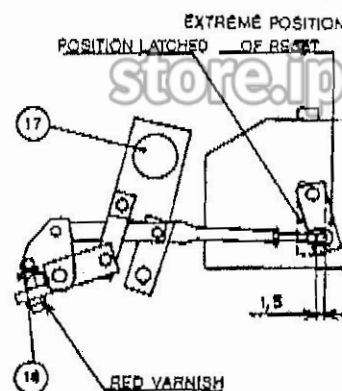

Fig. 14
- 1) Breaker equipped with signal indication with memory for overload and short circuit release (with or without indication.) (Fig. 14).
a) Adjustment. When breakers are equipped with this accessory, it is necessary to place breaker in open position and adjust screw (16) to effect latching the release. A very distinct click indicates latching. To insure a margin of safety, unscrew $\frac{1}{4}$ of a turn.
1) Adjustment. With the breaker in the open position and the release bar latched as illustrated in Fig. 14, adjust screw (30) lengthening linkage until stirrup is against stop (29), then back off $\frac{1}{2}$ turn.